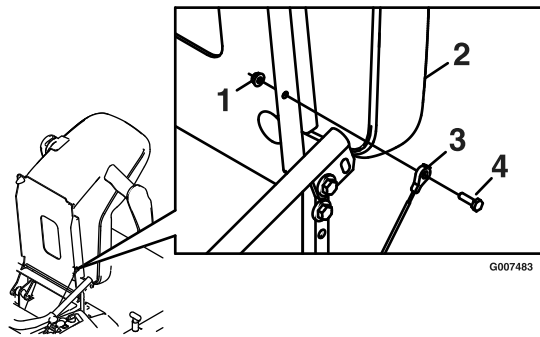

Figure 1
2. Tilt seat downward and align lanyard to the hole in the side of the seat (see Figure 1).